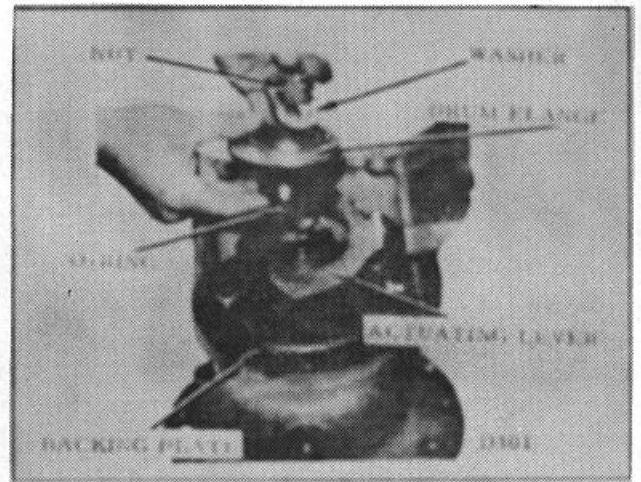

Figure 19.
10. Remove the pinion shaft nut and drum flange. (Fig. 19) Disassemble the internal brake and remove its backing plate.